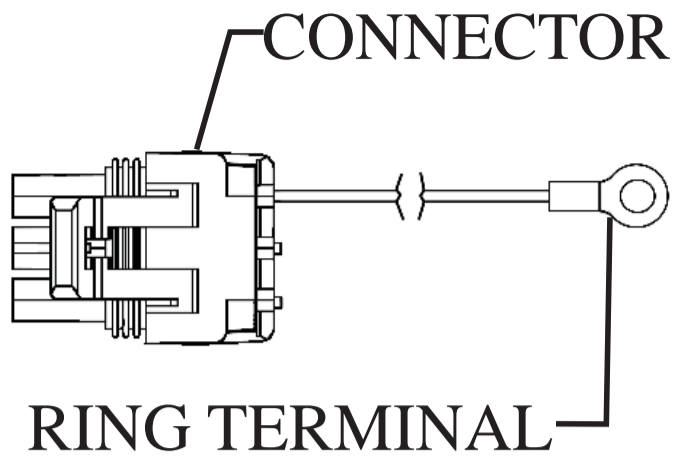

Figure 14
1) Locate the Temperature Adapter Harness included with the sensor. See Figure 14.